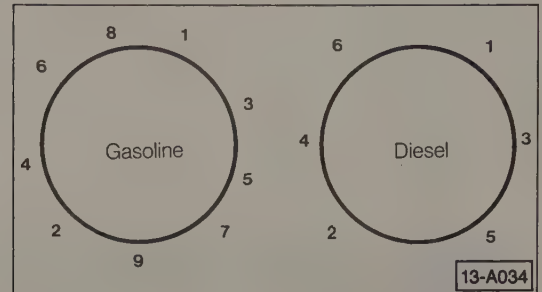

Fig. 5-11. Flywheel bolt torque sequences.
10. Remove the centering tool, if used, and torque the bolts to 20 Nm (15 ft. lb.) in the sequence shown in Fig. 5-11.